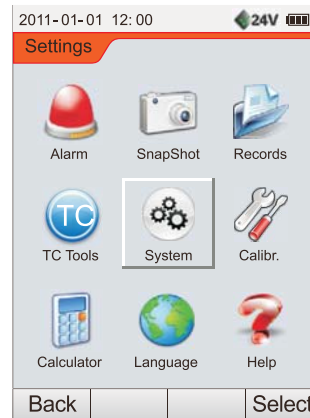

Figure 9.2 Setting interface
2. System set-up interface: press  to the set-up interface (Figure 9.2). In this interface, press  or  and return to the main interface.